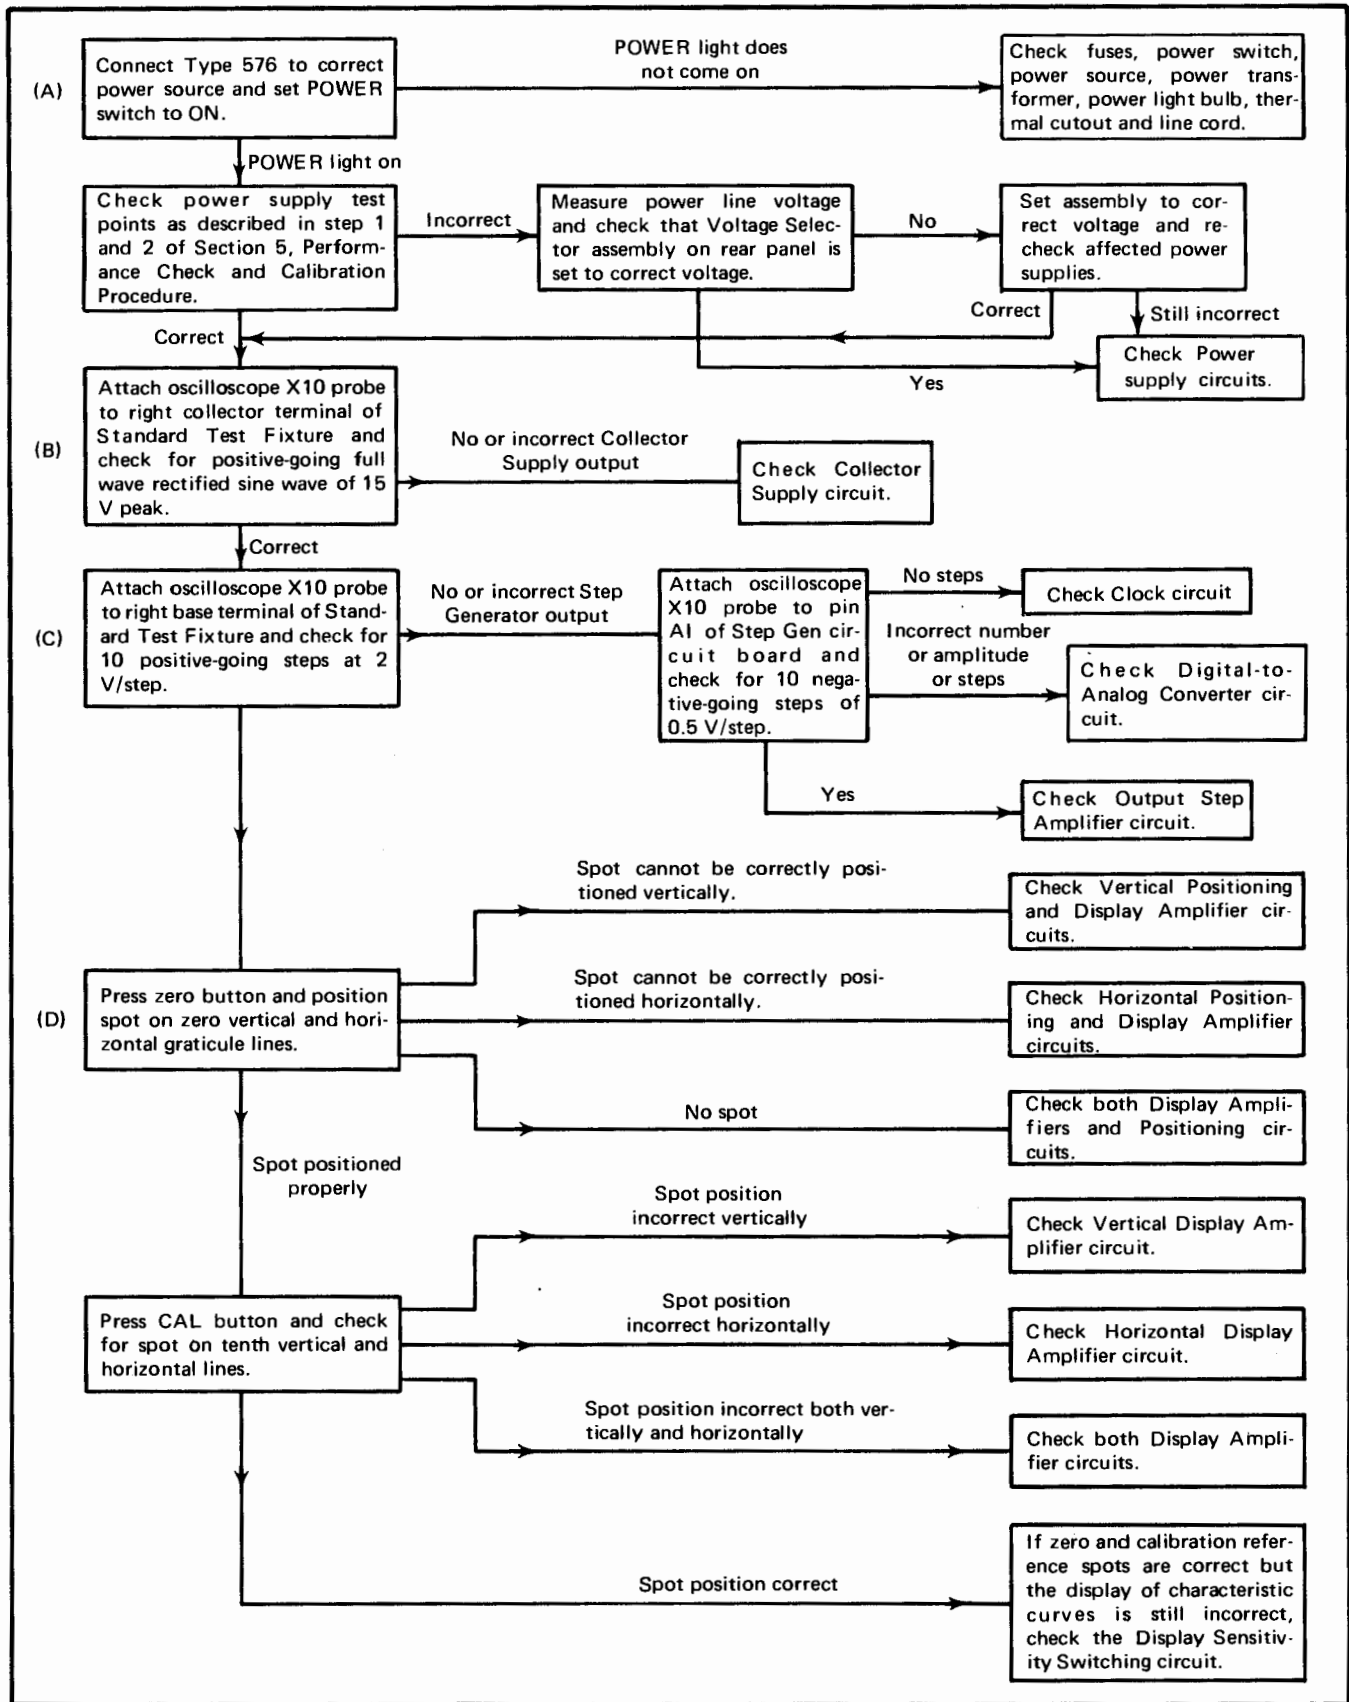

Fig. 4-3. Troubleshooting chart.
If the trouble symptom does not indicate which circuit(s) is causing problems (for example, if there were no Collector Supply or Step Generator outputs), a more systematic troubleshooting procedure is necessary. Fig. 4-3 provides a general guide for locating the circuits which are most likely causing the instrument to malfunction.
H. Start with the following step on Fig. 4-3 according to the results of the previous checks:
1. Step (A)—No Collector Supply output; Step Generator output or display on the Type 576 CRT.
2. Step (B)—No Collector Supply output or incorrect output, but Step Generator is displayed on the Type 576 CRT.
3. Step (C)—No Step Generator output (or incorrect output), but Collector Supply is displayed on the Type 576 CRT.
4. Step (D)—No display on type 576 CRT (or incorrect display), but Collector Supply output and Step Generator output are displayed properly on the test oscilloscope CRT.
After the defective circuit has been located using Fig. 4-3, proceed with steps 4 through 9 to locate and repair the faulty components.